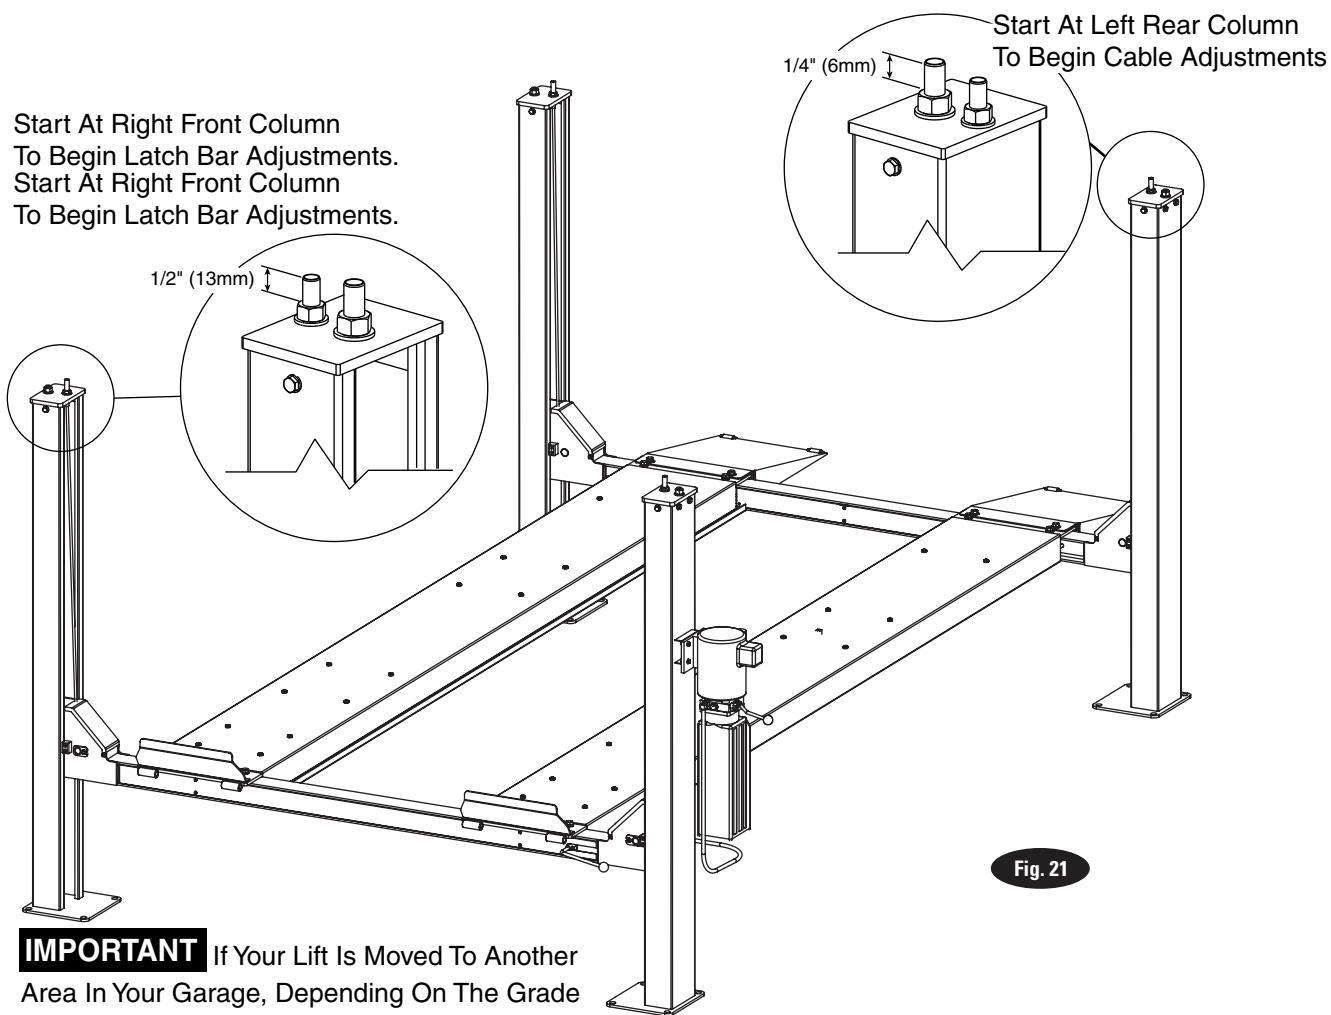

Fig. 21
- B.) Start at the right front column and loosen jam nut and adjust your latch bar until there is 1/2 inch (13mm) of thread is exposed out of the top of the nut on top of the column, Fig. 21. Retighten jam nut.
- E.) Adjust the left rear cable to expose 1/4 inch (6mm) of the cable out of the top of the nut, Fig. 21.